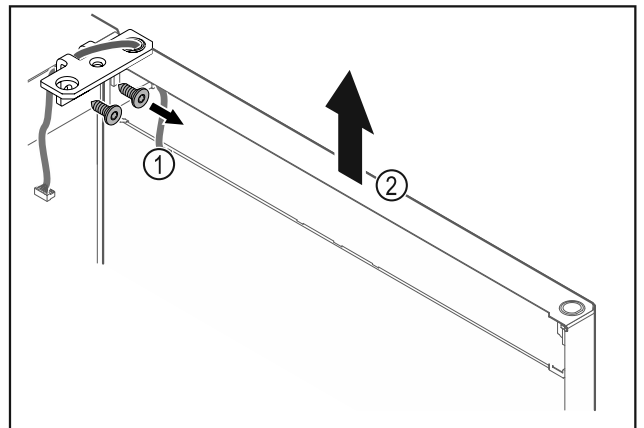

Fig. 25
- Unscrew the hinge Fig. 25 (1).
- Lift the door with the hinge straight up by Fig. 25 (2) roughly 200 mm and take it off.